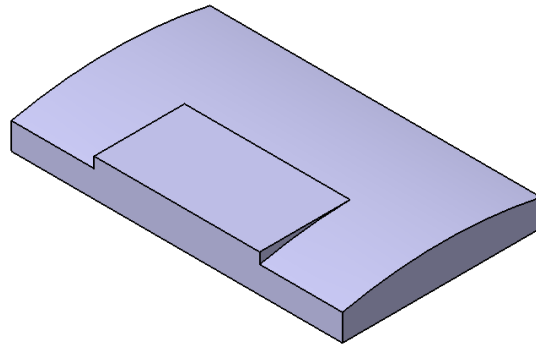

Figure 5-92 Model after creating the second feature
5. Select the **Up to next** option from the **Type** drop-down list and exit the **Pad Definition** dialog box. The model, after creating the second feature, is shown in Figure 5-92.